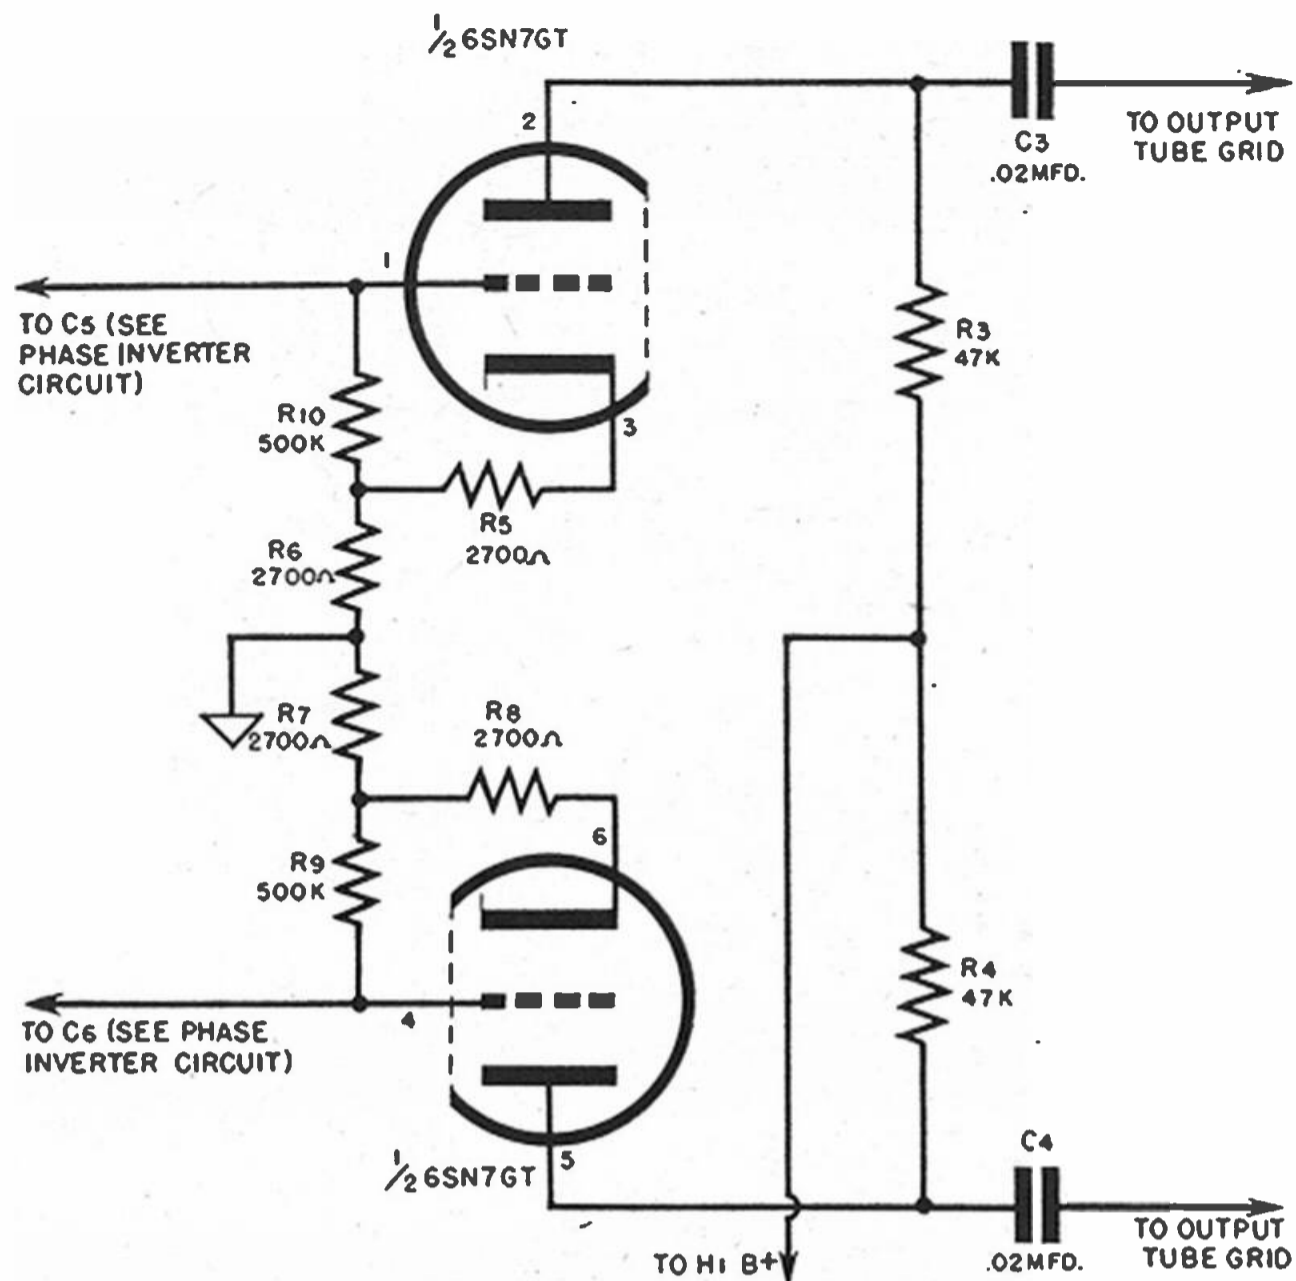

Fig. 5-25. Driver circuit for seven-tube amplifier.
d) *Driver Circuit.* See Figure 5-25.